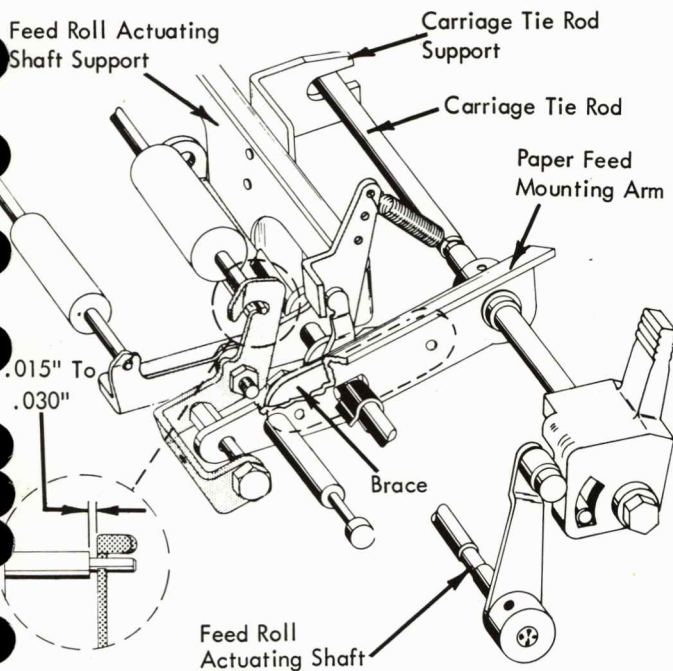

FIGURE 187. Paper Feed Mechanism
2. Paper Feed Braces - (early paper feed mechanism only) - With the feed roll tension springs disconnected the adjustable braces fastened to the paper feed mounting arms should be adjusted all the way forward without deflecting either the feed roll actuating shaft or the carriage tie rod (Fig. 187).
- a. Early Paper Feed Mechanism - With the feed roll tension springs disconnected, the vertical supports for the carriage tie rod and the feed roll actuating shaft should be adjusted to just touch the bottom of each shaft (Fig. 187). The feed roll actuating shaft support should be loose when the tie rod support is adjusted.
- Early - The left and right hand paper feed mounting arms should be adjusted to provide the rear feed roll shafts with an end play of .015" to .030" when the feed rolls are against the platen (Fig. 187).